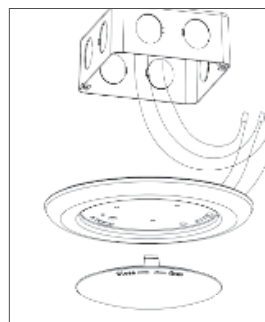

FIGURE 4
**C)** Remove lens by twisting counter clockwise. (Figure 4)
**D)** Use the included wire nuts (or quick connectors) to make electrical connections. Connect fixture black wire to supply black wire, connect fixture white wire to supply white neutral wire, connect the ground wire (attached to the fixture) to the ground wire in the junction box. (Figure 4)